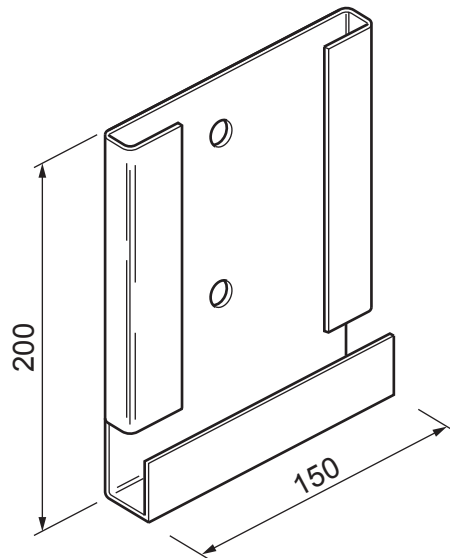

Fig. 8.1
- 8 Fig. 8.1 shows a leaflet holder made from 3 mm thick acrylic.